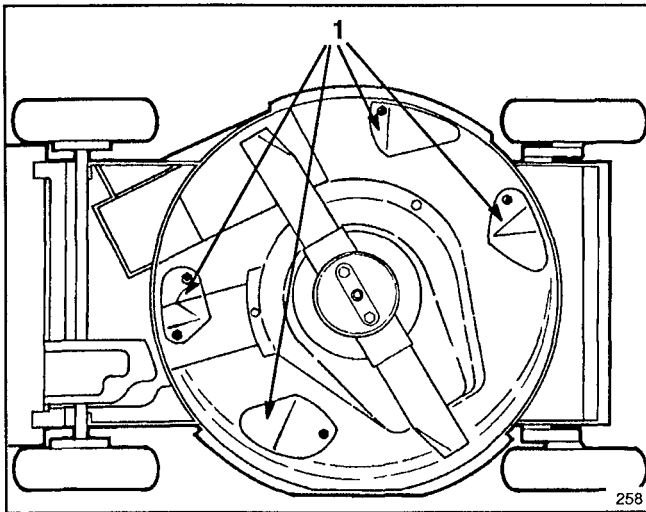

Figure 6
- Four special "kicker plates" positioned on the underside of the mower deck in strategic positions (Fig. 6)